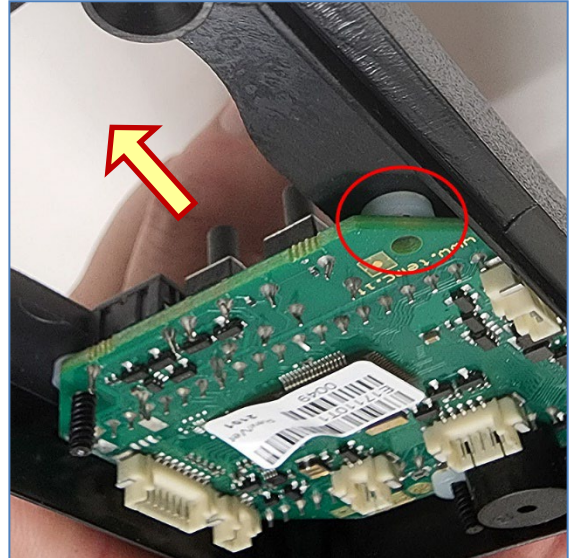

Figure 4. Make sure spacers stay in place.
1. Replace the two (2) 1/2 in screws (just removed) and install the 3/4 in screws supplied in your SMART START Module Kit.
2. Make sure the two (2) white plastic spacers located between the analyzer PCB and faceplate stay in place as you replace both screws (Figure 4).